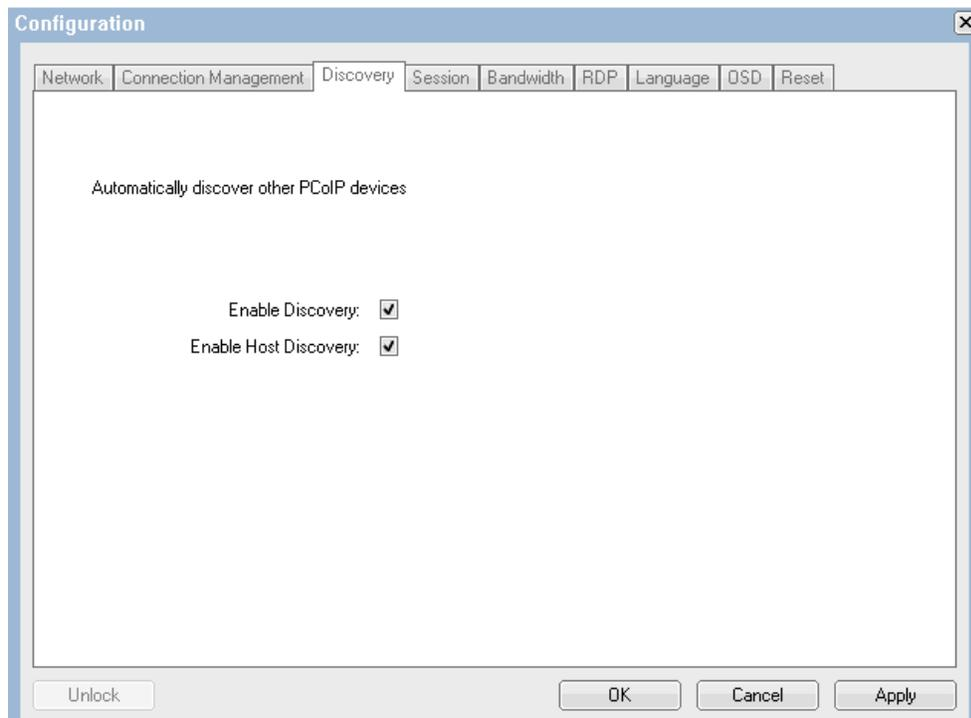

Figure 6-65 Discovery configuration in the CP20
5. In the **Discovery** tab, select **Enable Discovery** and **Enable Host Discovery** as shown in Figure 6-65.